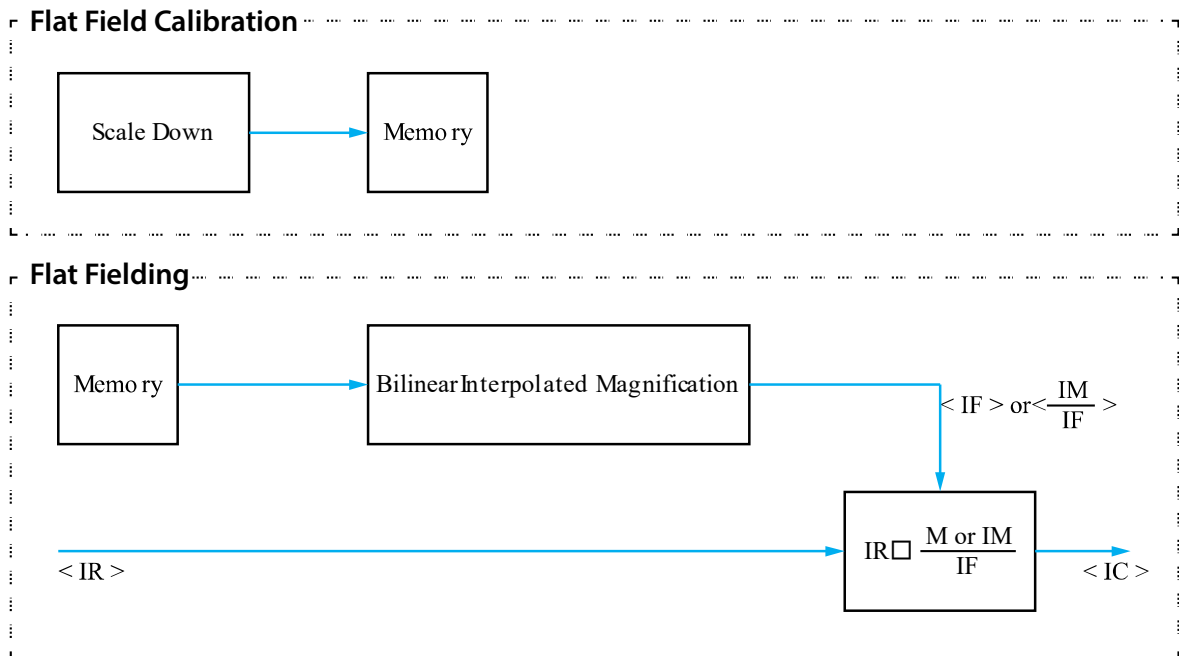

Figure 9-8 Generation and Application of Flat Field Data
3. Execute the **Flat Field Data Save** parameter to save the generated Flat Field data into the non-volatile memory. When the scaled down Flat Field data are used for correction, they are expanded and applied with a Bilinear Interpolation as shown in the **Figure 9-8**.